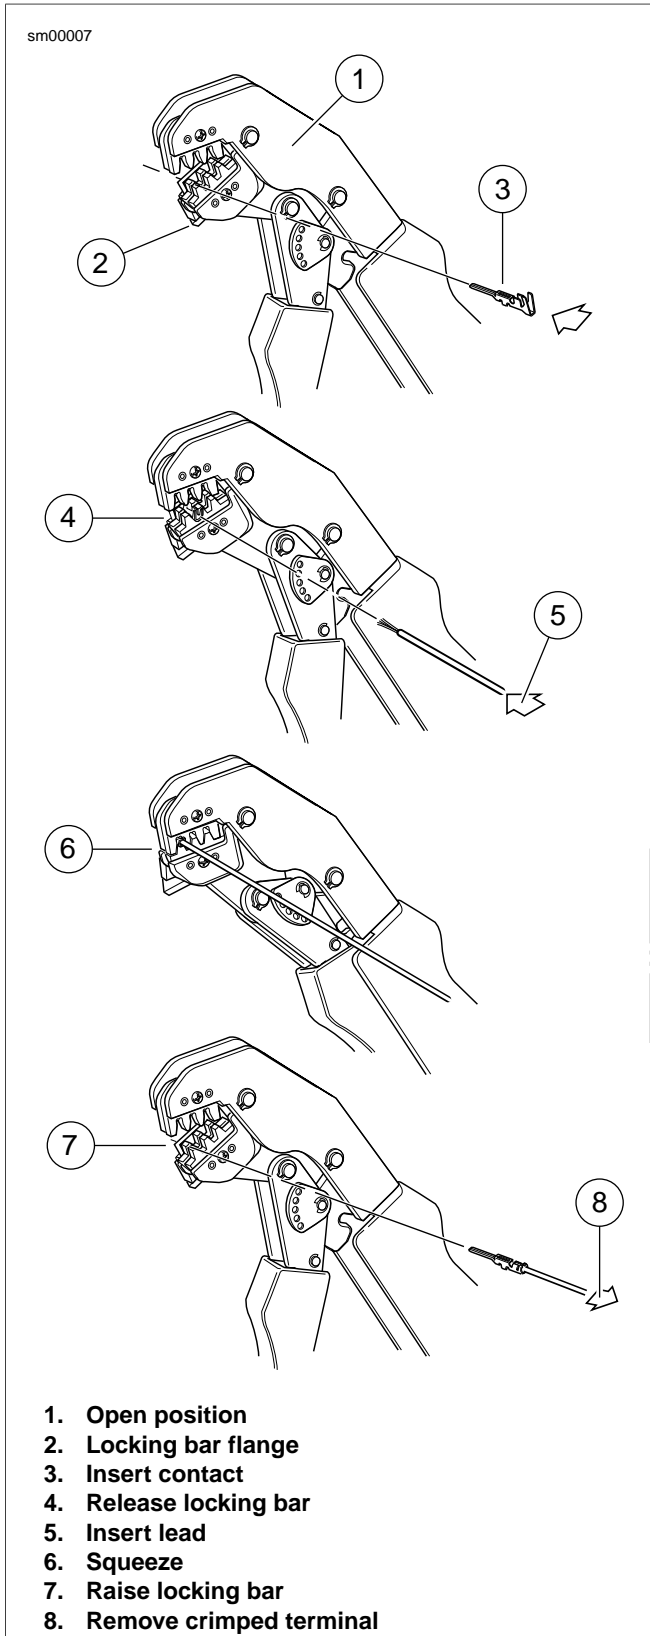

Figure A-6. AMP Multilock Connector: Terminal Crimping Procedure
- See Figure A-6. Squeeze the handles to cycle the AMP MULTILOCK CRIMPER (Part No. HD-41609) to the fully open position (1).
- Raise locking bar by pushing up on bottom flange (2).
- See Figure A-6. With the insulation crimp tail facing upward, insert terminal (pin or socket) (3) through the locking bar, so that the closed side of the terminal rests on the nest of the crimp tool.
- Release locking bar to lock position of contact (4). When correctly positioned, the locking bar fits snugly in the space at the front of the core crimp tails.
- Insert stripped end of lead (5) until ends make contact with locking bar.
- Raise up locking bar (8) and remove crimped terminal.